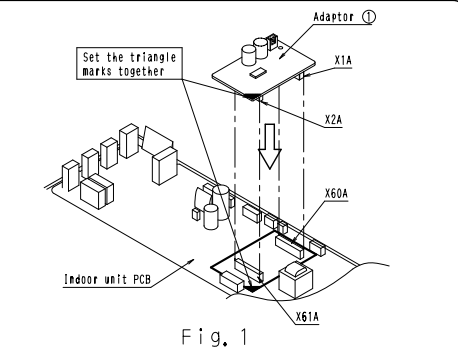

Fig. 1
① SYSTEM OUTLINE
② ELECTRIC WIRING for FFQ model
- (1) Mount the Adaptor ① on the indoor unit PCB by setting the triangle marks together, (Fig.1)
- (1) Mount the adaptor ① on the indoor unit PCB by setting the triangle marks together, (Fig.1 in **ELECTRIC WIRING for FFQ model**)